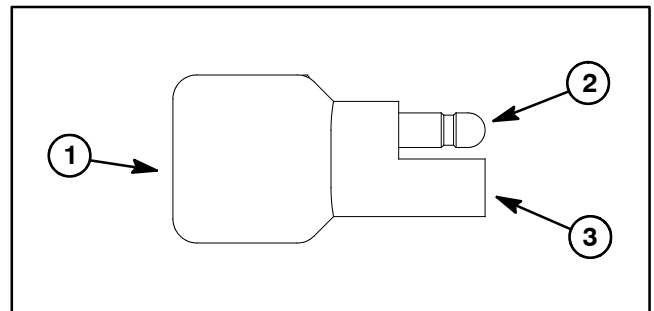

Figure 63
3. The diode (Fig. 63) can be tested using a digital multimeter (diode test or ohms setting) and the table below.